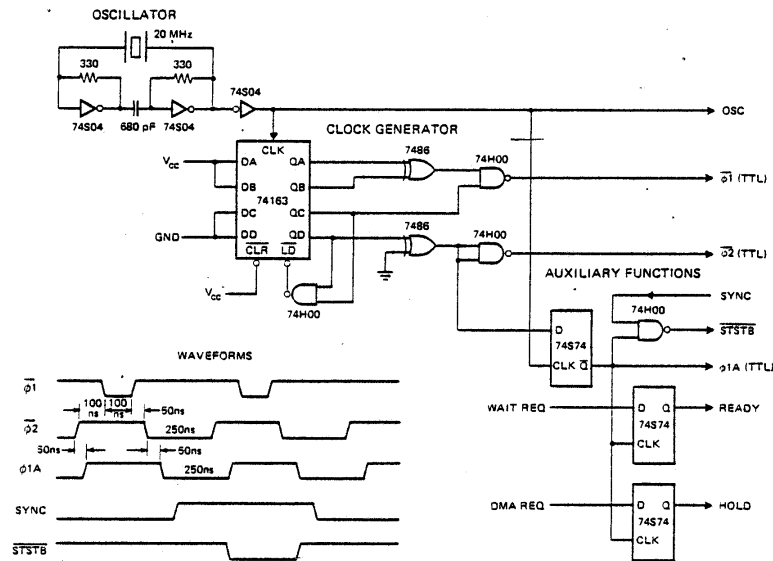

Figure 3-3. 8080 Clock Generator
The oscillator provides a 20 MHz signal to the input of a four (4) bit, presettable, synchronous, binary counter. By presetting the counter as shown in figure 3-3 and clocking it with the 20 MHz signal, a simple decoding of the counters outputs using standard TTL gates, provides proper timing for the two (2) 8080 clock inputs.
The Clock Generator diagram also shows how to generate an advanced timing signal ($\phi 1A$) that is handy to use in clocking "D" type flipflops to synchronize external requests. It can also be used to generate a strobe (STSTB) that is the latching signal for the status information which is available on the Data Bus at the beginning of each machine cycle. A simple gating of the SYNC signal from the 8080 and the advanced ($\phi 1A$) will do the job. See Figure 3-3.